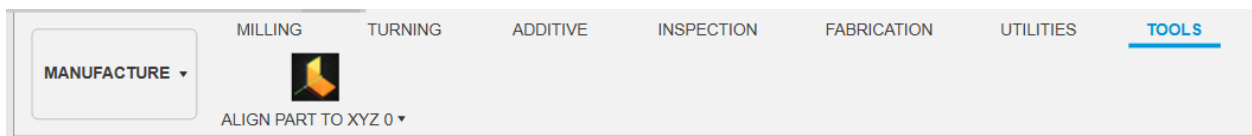

Figure 1: CamAlign button in the Manufacture workspace Tools Tab.
- Confirm the **Align Part to XYZ 0** button is visible (see *Figure 1*).